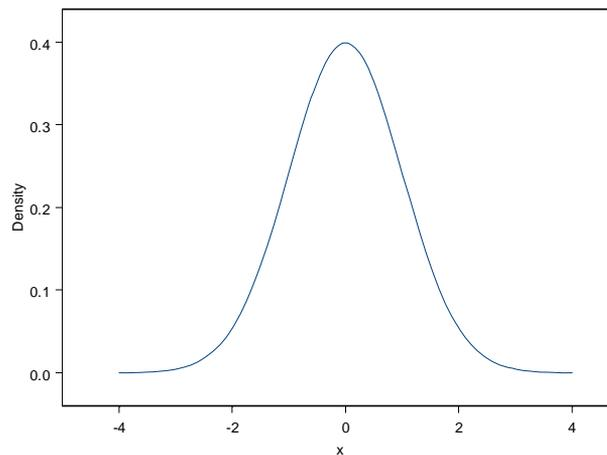
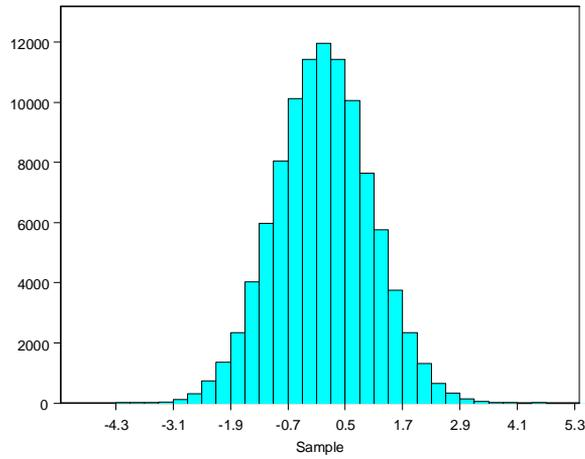

Figure 6.87: *The normal distribution with mean 0 and standard deviation 1.*
Figure 6.89: *A histogram of normal data.*
The **Distribution Functions** dialog allows us to easily graph a probability distribution, such as the normal distribution shown in Figure 6.87.
The following steps generate the plot of the normal distribution in Figure 6.87:
One way to develop an intuitive sense for the shape of a distribution is to repeatedly plot histograms of sampled data. Consider the shape of the normal density in Figure 6.87. If we state that a population distribution is normal, we are saying that the data have this shape. In other words, if we sample 100 observations from the population and generate a histogram from the data, we would expect the histogram to look similar to Figure 6.89. Let's test how well this works in practice.
9. One aspect that might strike you about the histogram is how much it does *not* look like Figure 6.87 or Figure 6.89. Since the **Random Numbers** dialog is still open, you can generate a new sample of data by simply clicking **Apply** again. A new
The larger the sample size, the more likely the histogram is to look like Figure 6.89. However, even for larger data sets, the histogram rarely approaches the almost perfect look of Figure 6.89. For small sample sizes, the shapes you see may not even resemble the normal-shaped histogram we expect. Yet every single data set is normal: we know this because we generated the data from a normal distribution.
Figure 6.89 was generated using 100,000 observations. Try plotting some different distributions using large sample sizes (say 1,000 or 10,000 observations). Note the shapes of the different distributions.